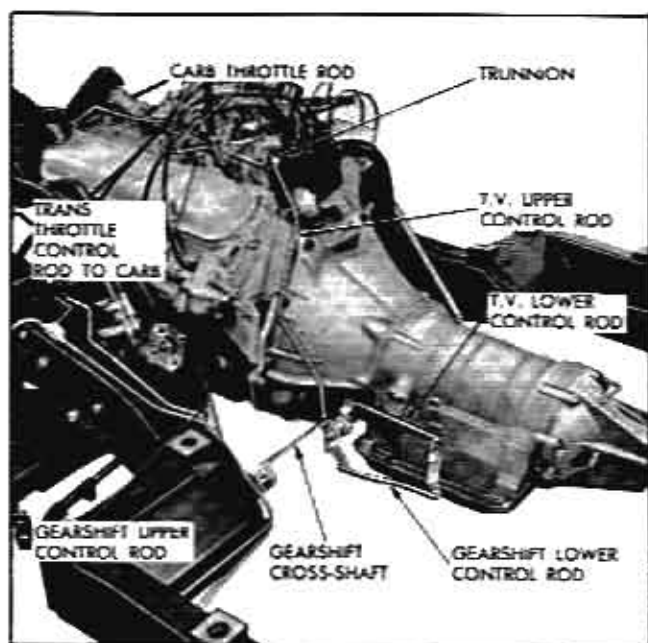

Fig. 40 Throttle Control Linkage
6. Push throttle control rod to transmission (T.V. upper rod) downward until the outer throttle lever is felt to touch end of travel (Fig. 40).
1. Put upper shift control lever and transmission lever in park **P** position and, with the transmission outer shift lever trunnion nuts (Fig. 40) backed clear of the trunnion, pull the shift rod down toward the transmission as far as possible. While holding rod in this position, run the trunnion upper nut down to just contact the trunnion. Run lower nut up to contact trunnion and lock nuts securely.